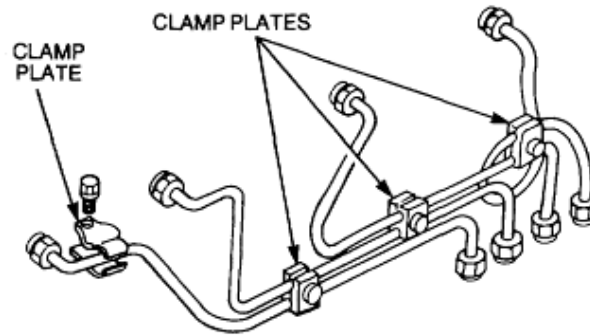

Figure 26 Clamp Plate Location
- d. Remove the clamp plates retaining the fuel line (Figure 26).